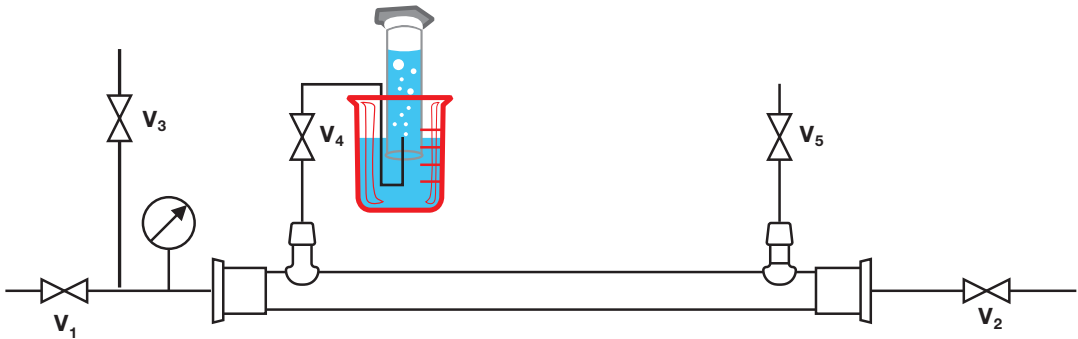

Figure 9: Diffusive Flow Test Schematic using the graduated cylinder method.
- 1. A system setup for performing the Diffusive Flow Test is shown in Figure 9.